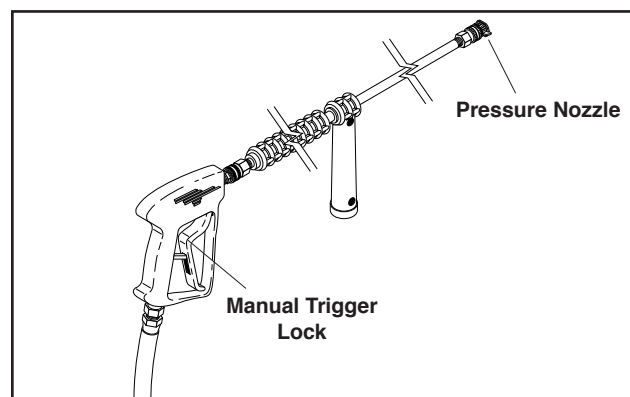

Figure 4 - Nozzle Installation/Trigger Lock
1. Install the proper pressure nozzle for your cleaning needs on the end of the wand. Refer to **Figure 4**.